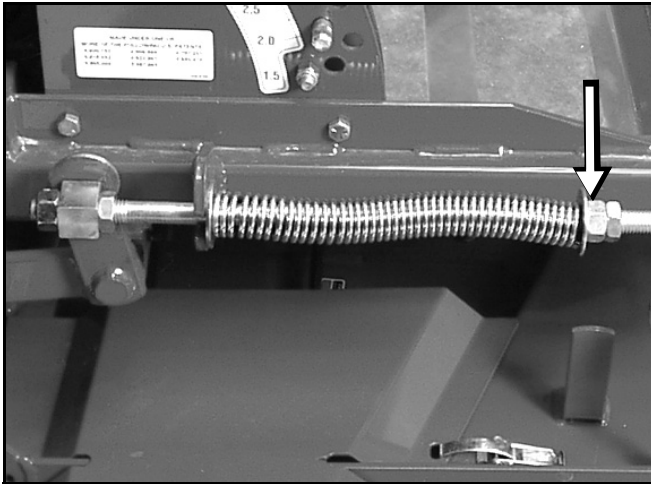

Figure 128
4. Raise the deck to the transport position and take all force off of the two large deck lift springs by loosening nut in front of each spring (Figure 128).